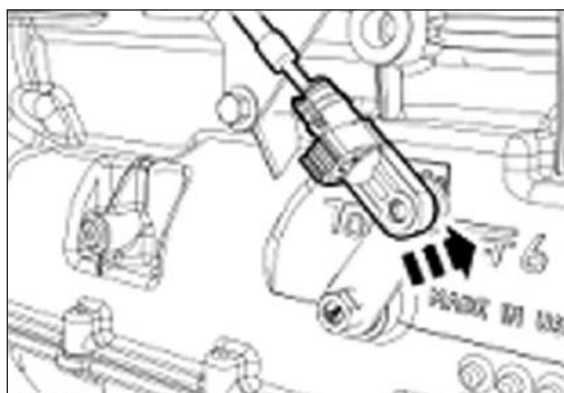

Figure 86
7. Correct the selector lever cable onto manual control lever (**Fig. 86**).